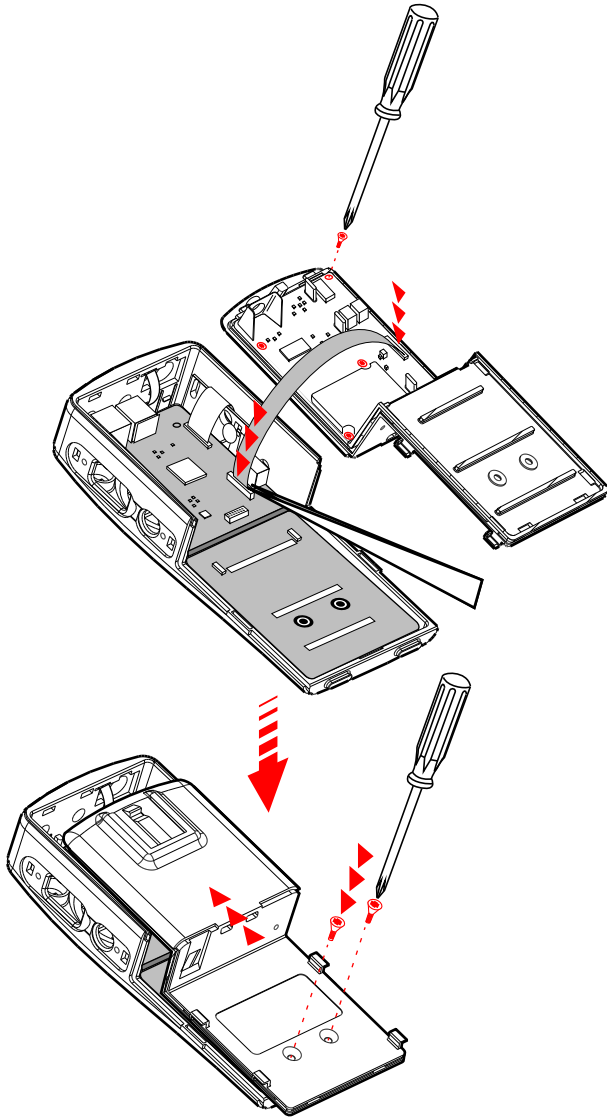

Figure 1-9 Replace Radio's Chassis
1. Place the RF board on the chassis and tighten the five screws (Figure 1-9).
2. Connect the RF board and the controller board with the flat ribbon cable (Figure 1-9).
3. Place chassis gently into the housing (Figure 1-9).
4. Slide the chassis upwards to properly fit into the housing and press the bottom of the chassis firmly into place (Figure 1-9).